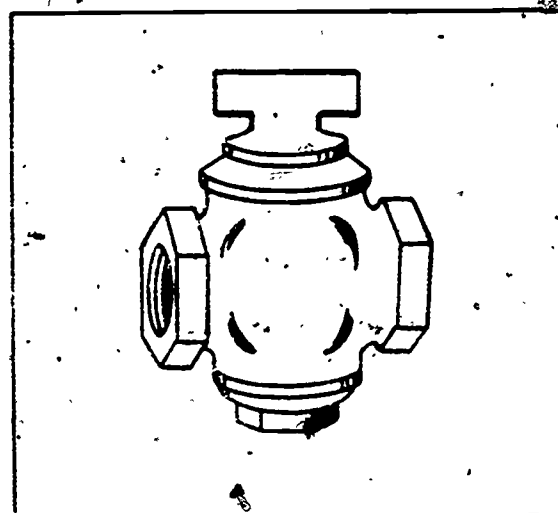

Figure 1-19. Meter stop.
**Meter stop.** After the curb stop has been installed, the supply line is run to the building and through the building wall to the inside of the basement. Now, the meter stop, shown in figure 1-19, is installed immediately within the wall of the building. The purpose of the meter stop is to control the flow of water to the system from inside the building. Some codes require that a gate valve be placed in the line immediately after the meter stop, because it is not built for frequent opening and closing. In this type of installation, the meter stop is closed only when the meter is removed or replaced.